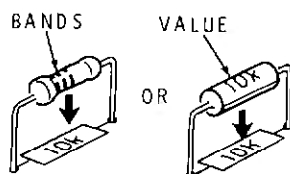

Figure 1
1. When you install resistors, always position each resistor so you can read the bands on the resistor in the same direction as you can read the printing on the circuit board (see Figure 1). For resistors that have the value printed on them instead of color bands, install these resistors so the values are facing away from the circuit board and read in the same direction as the printing on the circuit board.